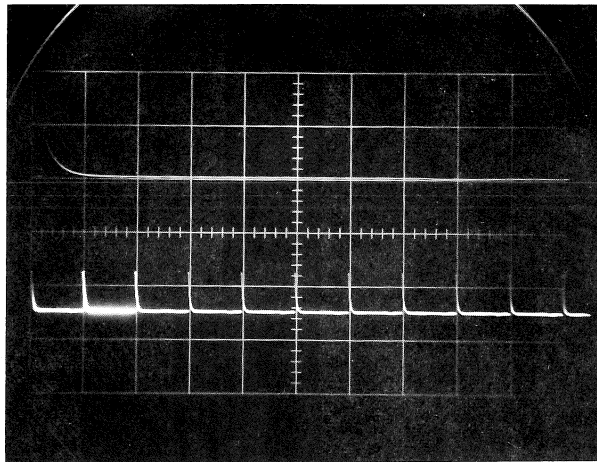

Figure 70
1. Apply 1 msec markers from the 180 and obtain a stable display. Adjust the BRIGHTNESS and INTENSITY controls for an easily discernible delayed sweep and intensified portion. (See Fig. 70)